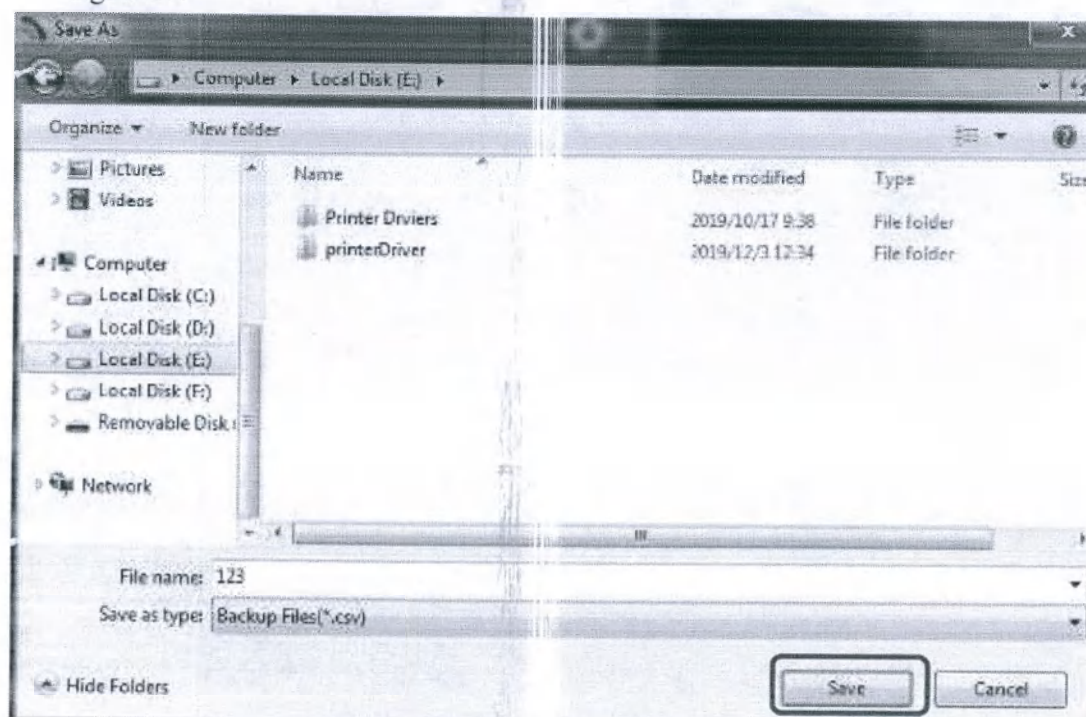

Fig. 6-17 Save Button
- Click the "Save" button to save the exported data. The "Save" button is shown in fig. 6-17.